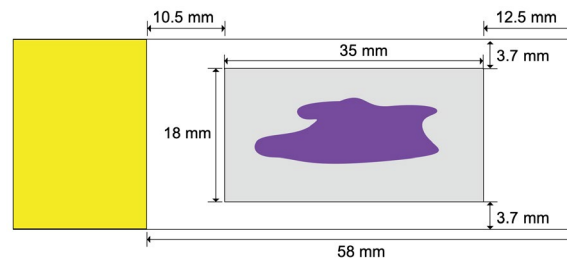

Figure 2.2. Fresh frozen tissue placement guide.
7. Gently place the tissue section in the center of the slide within the imageable area. (See Figure 2.2., gray area.)
NOTE Ensure the tissue section is placed in the center of the slide as illustrated in Figure 2.2 (gray area). Print this page and use the true-to-size figure below as a guide. Tissue placed under the adhesive portion of the Flow Cell will affect bonding and will likely fail. This could result in a leaking Flow Cell and hence loss of the tissue slide. Additionally, ensure the tissue is placed on the positively charged side of the slide to ensure proper adhesion.